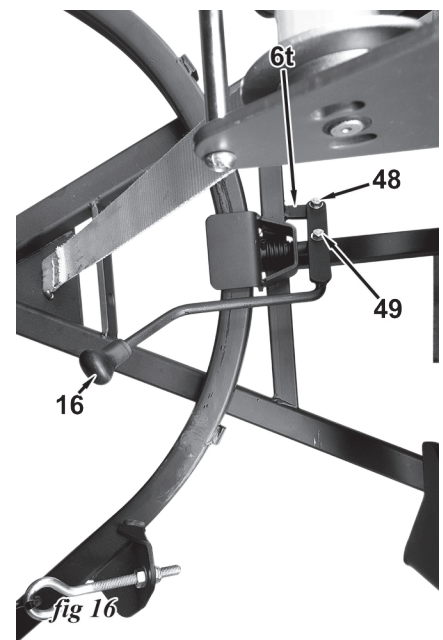

fig.16
17. Assemble the blade angle locking handle with knob to the A frame so that it operates the spring-loaded angle lock pin in the bracket on top of the A frame smoothly. Bolt the end of the handle opposite the knob (16, fig.16) to the eye in the small tab in the A frame's centre cross piece (6t, fig.16) with an M8 x 25 mm gr.8 bolt (48, fig.16) and 2 x 8 mm washers. Secure with an 8 mm Nylock nut. Bolt the handle to the hole in the angle lock pin with an M8 x 35 mm gr.8 bolt (49, fig.16) and 2 x 8 mm washers. Secure with an 8 mm Nylock nut.